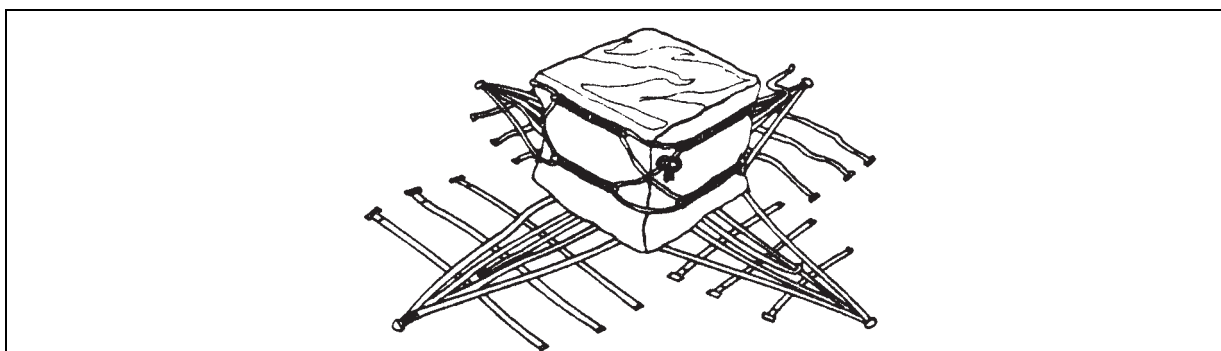

Figure 8-3. Cover Secured with Lacing Cord
- **Closing the Cover.** Fold the panels of the canvas/nylon cover over the top of the load. Fold any excess cover material under the top flap. Using lacing cord or Type III nylon cord, secure the cover at each corner by running the cord through the lacing loops in a figure-eight design (figure 8-3). Tie the cord ends with a bow knot and secure. The purpose of the cord is to tighten the cover around the load so that small items cannot fall out.